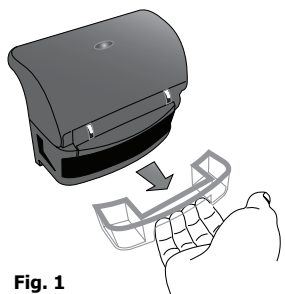

Fig. 1
6. Remove the water collector from below the lid hinge by pulling outwards [Fig. 1]. Discard the water collected after each use.